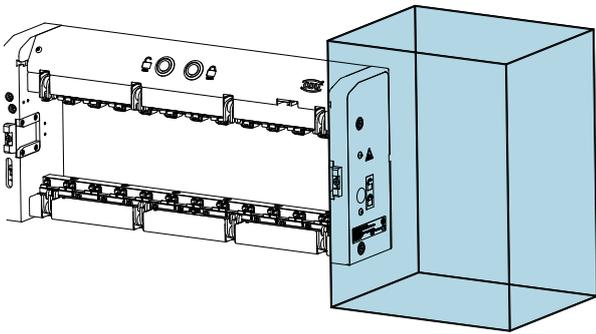

Fig. 196
► In order to actuate the emergency release, it is necessary to ensure during the design phase that there is a freely accessible area on the side of the receiver. [Fig.196]